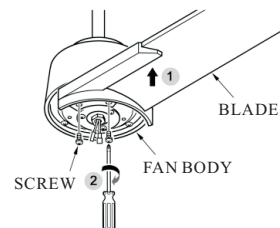

FIG.11
2. Attached each blade assembly to the fan body using the blade bracket screws. Tighten them securely. (See Fig.11)